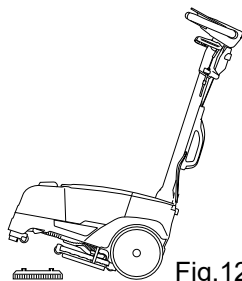

Fig.12
- Pull back on the handle to elevate the front part of the machine, position the brush cowlings directly over the brush, and proceed to lower the machine (fig. 12).
- Pull back on the handle to elevate the front part of the machine (fig. 12).